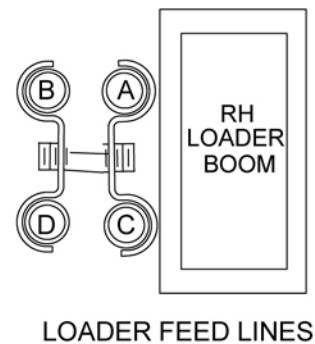

Figure 22. 1020, 1027 Control Valve and Loader Feedline Hose Connections
1. The control valve kit contains hoses assembled with quick couplers. Attach supply hoses to loader feedlines, following the color scheme shown in Figure 22.
2. Connect loader feedline hoses to control valve hydraulic couplers (See Figure 22).